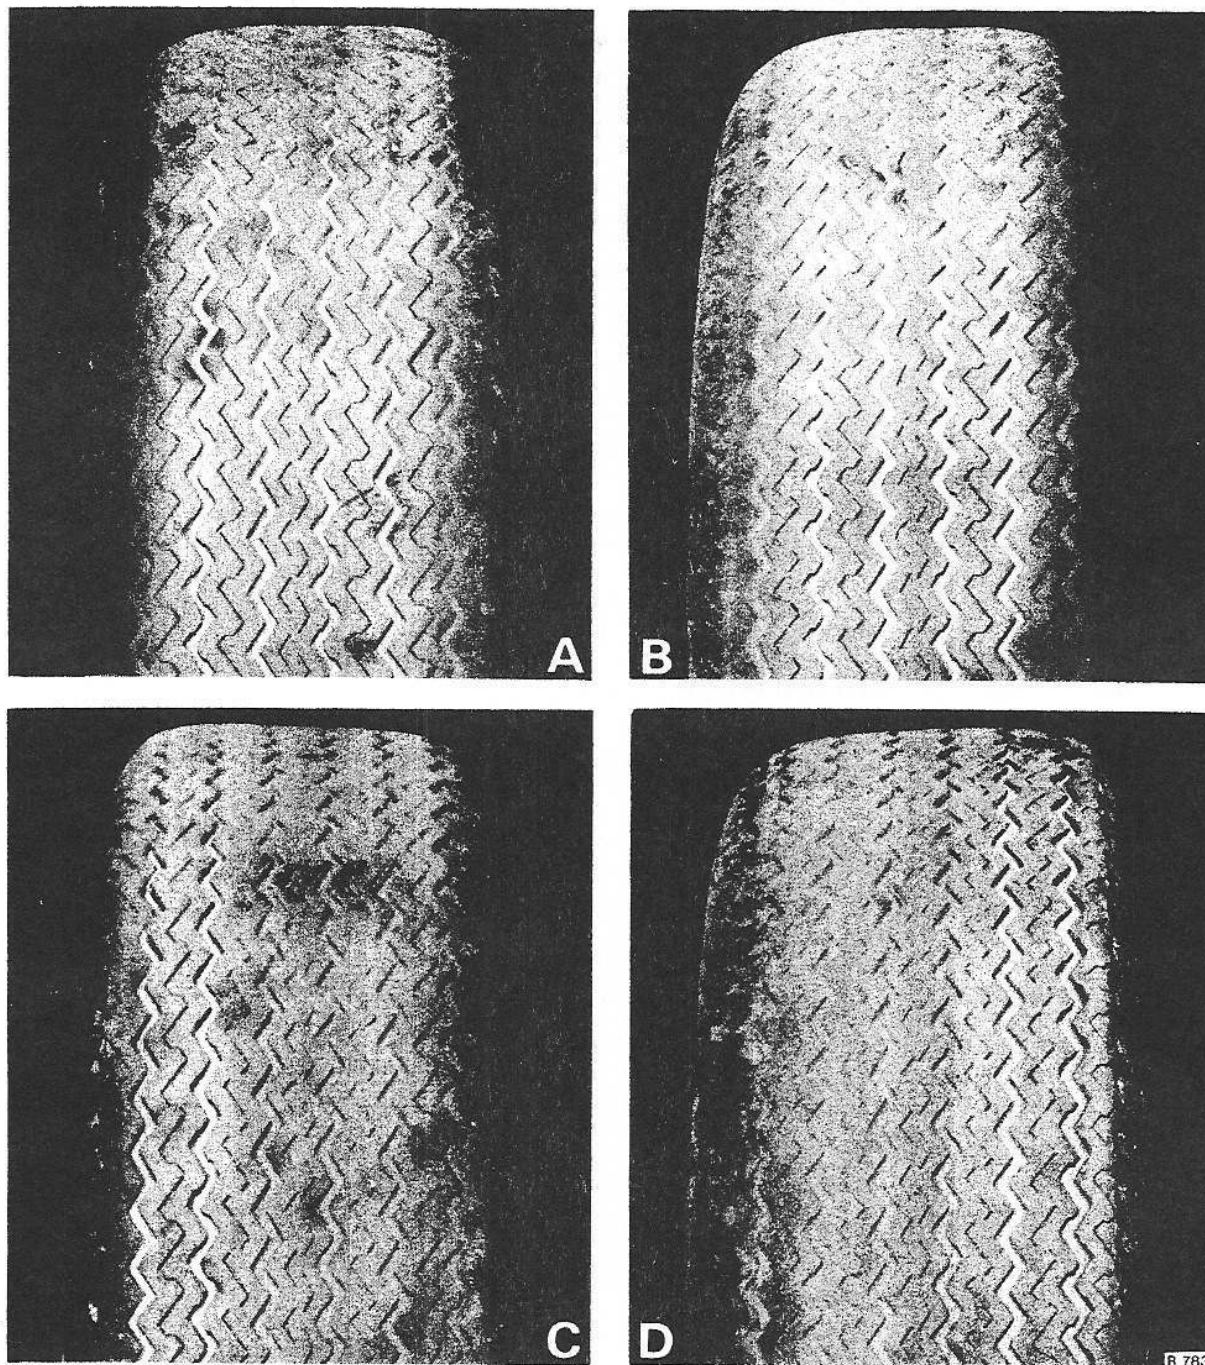

FIG. R11 TYRE WEAR
the tyre. This condition may be evident from a fairly early mileage, finally resulting in an amount of tread remaining on the centre ribs while the tyre rubber on the shoulders is worn smooth. The tyre tread assumes a rather rounded outline as shown in Figure R11.
The rear tyres tend to wear in a tapered form from the outer shoulder across to the inner shoulder; the centre and inside shoulder showing most wear. An example of a normally worn rear tyre is shown in Figure R11.
3. The higher the speed at which a car is driven through corners, the more the rear tyres will wear on the inner shoulders. The effects of hard cornering will be shown also by the 'feathering' which occurs on the rib edges as shown in Figure R11. Do not change the position of a partially worn set of tyres as the subsequent rate of wear will be increased.